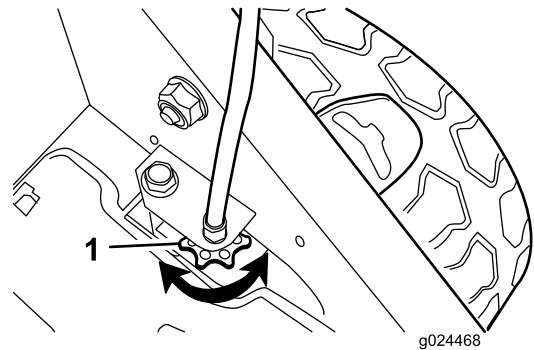

Figure 24
- If the wheels do not spin when you engage the self-propel-drive bar, the traction belt is too loose. Rotate the wheel-drive-control knob (Figure 24) clockwise 1 turn and repeat steps 4 through 6.
- If the wheels spin before you fully engage the self-propel-drive bar, the traction belt is too tight. Rotate the wheel-drive-control knob (Figure 24) counterclockwise 1 turn and repeat steps 4 through 6.